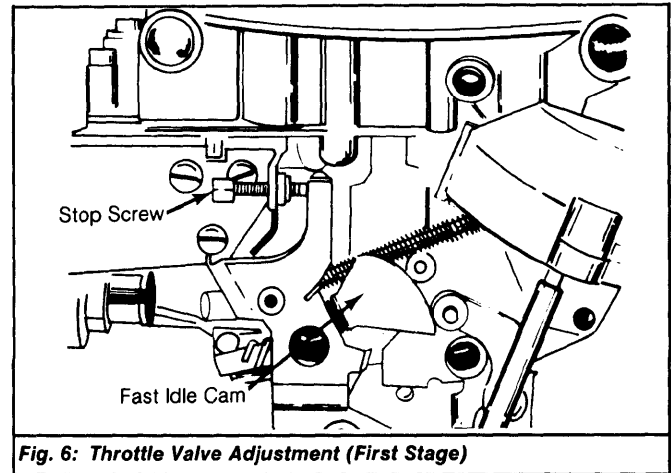

Fig. 6: Throttle Valve Adjustment (First Stage)
**Zenith 2B (First Stage)** - Open choke valve and close throttle valve. Remove plastic cap from stop screw. Turn screw out until it does not touch fast idle cam. Slowly turn screw in until it just touches cam, then turn an additional 1/4 turn. See Fig. 6. Adjust idle speed and CO% value. See appropriate TUNE-UP PROCEDURES article.